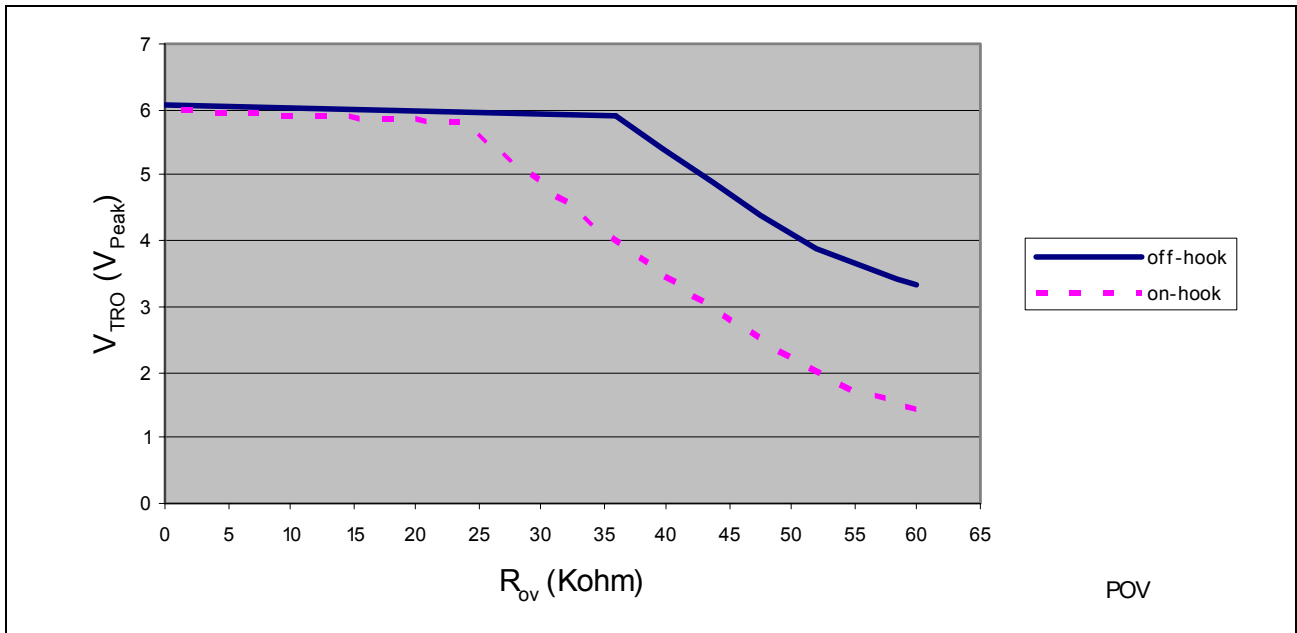

Figure 13 Programmable Overhead Voltage (POV). $R_L = 600 \Omega$ or Infinite
With the POV function the overhead voltage can be increased. If the POV pin is left open the overhead voltage is internally set to $3.2 V_{\text{Peak}}$ in off-hook and $1.3 V_{\text{Peak}}$ on-hook.. If a resistor R_{OV} is connected between the POV pin and AGND, the overhead voltage can be set to higher values, typical values can be seen in **Figure 13**. The R_{OV} and corresponding V_{TRO} (signal headroom) are typical values for THD < 1% and the signal frequency 1000 Hz.
2. In **Figure 13** the corresponding R_{OV} for the decided V_{TRO} can be found.